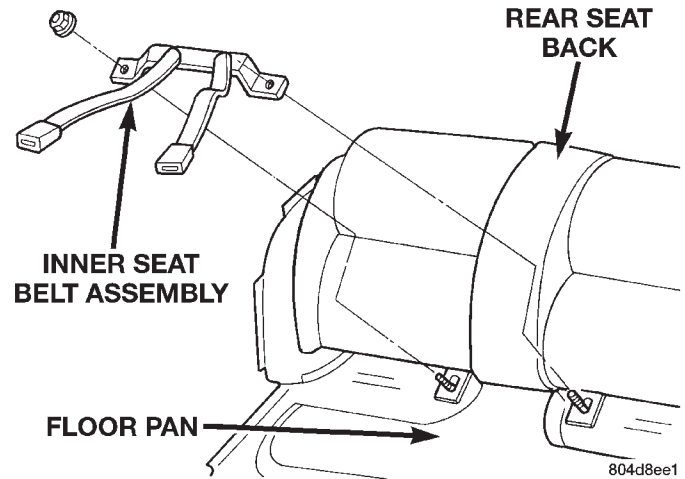

Fig. 63 Rear Inner Seat Belt Assembly
- (1) Remove rear seat cushion.
- (2) Remove nuts holding seat belt assembly to floor pan.
- (3) Remove rear inner seat belt assembly (Fig. 63).